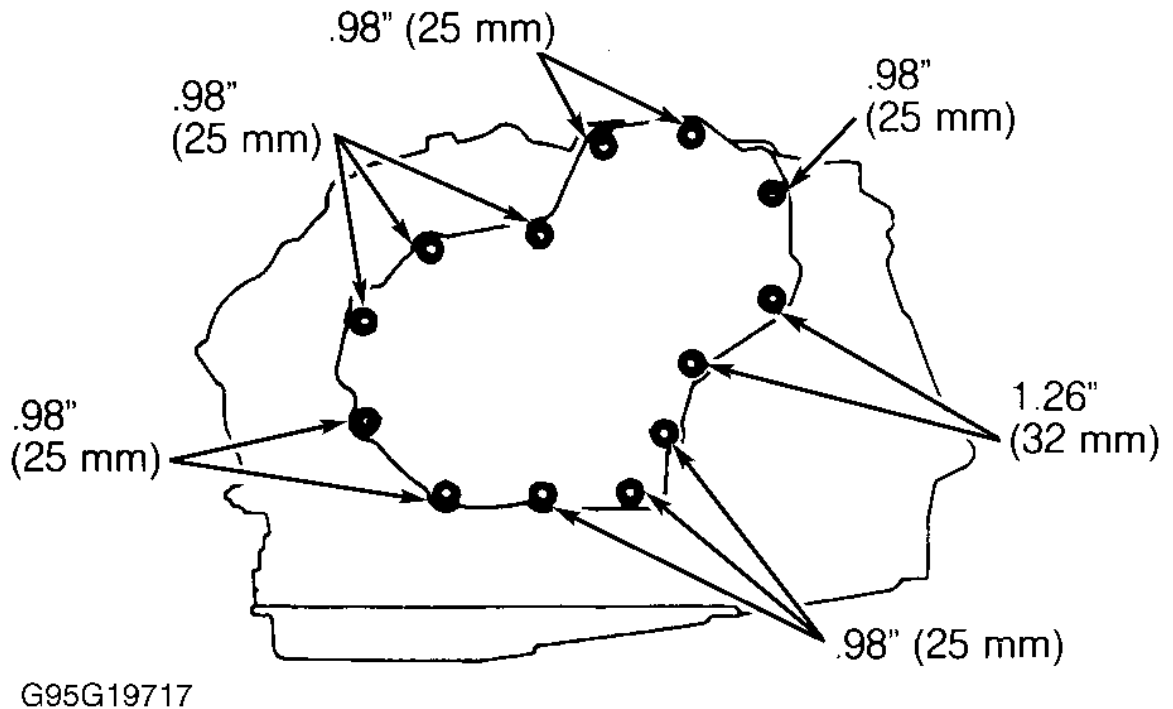

Fig. 90: Identifying Transaxle Rear Cover Bolts
16. Apply gasket sealer to rear cover sealing areas. Install transaxle rear cover and bolts. Ensure bolts are installed in correct locations. See Fig. 90 . Tighten bolts to 84 INCH lbs. (10 N.m). Ensure intermediate shaft turns smoothly.